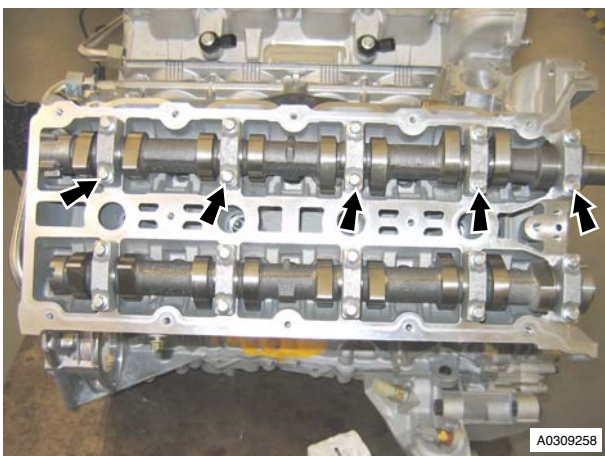

Figure 10
23. Remove the ten bolts evenly and in steps, that attach the bearing caps for the right exhaust camshaft (refer to Figure 10).